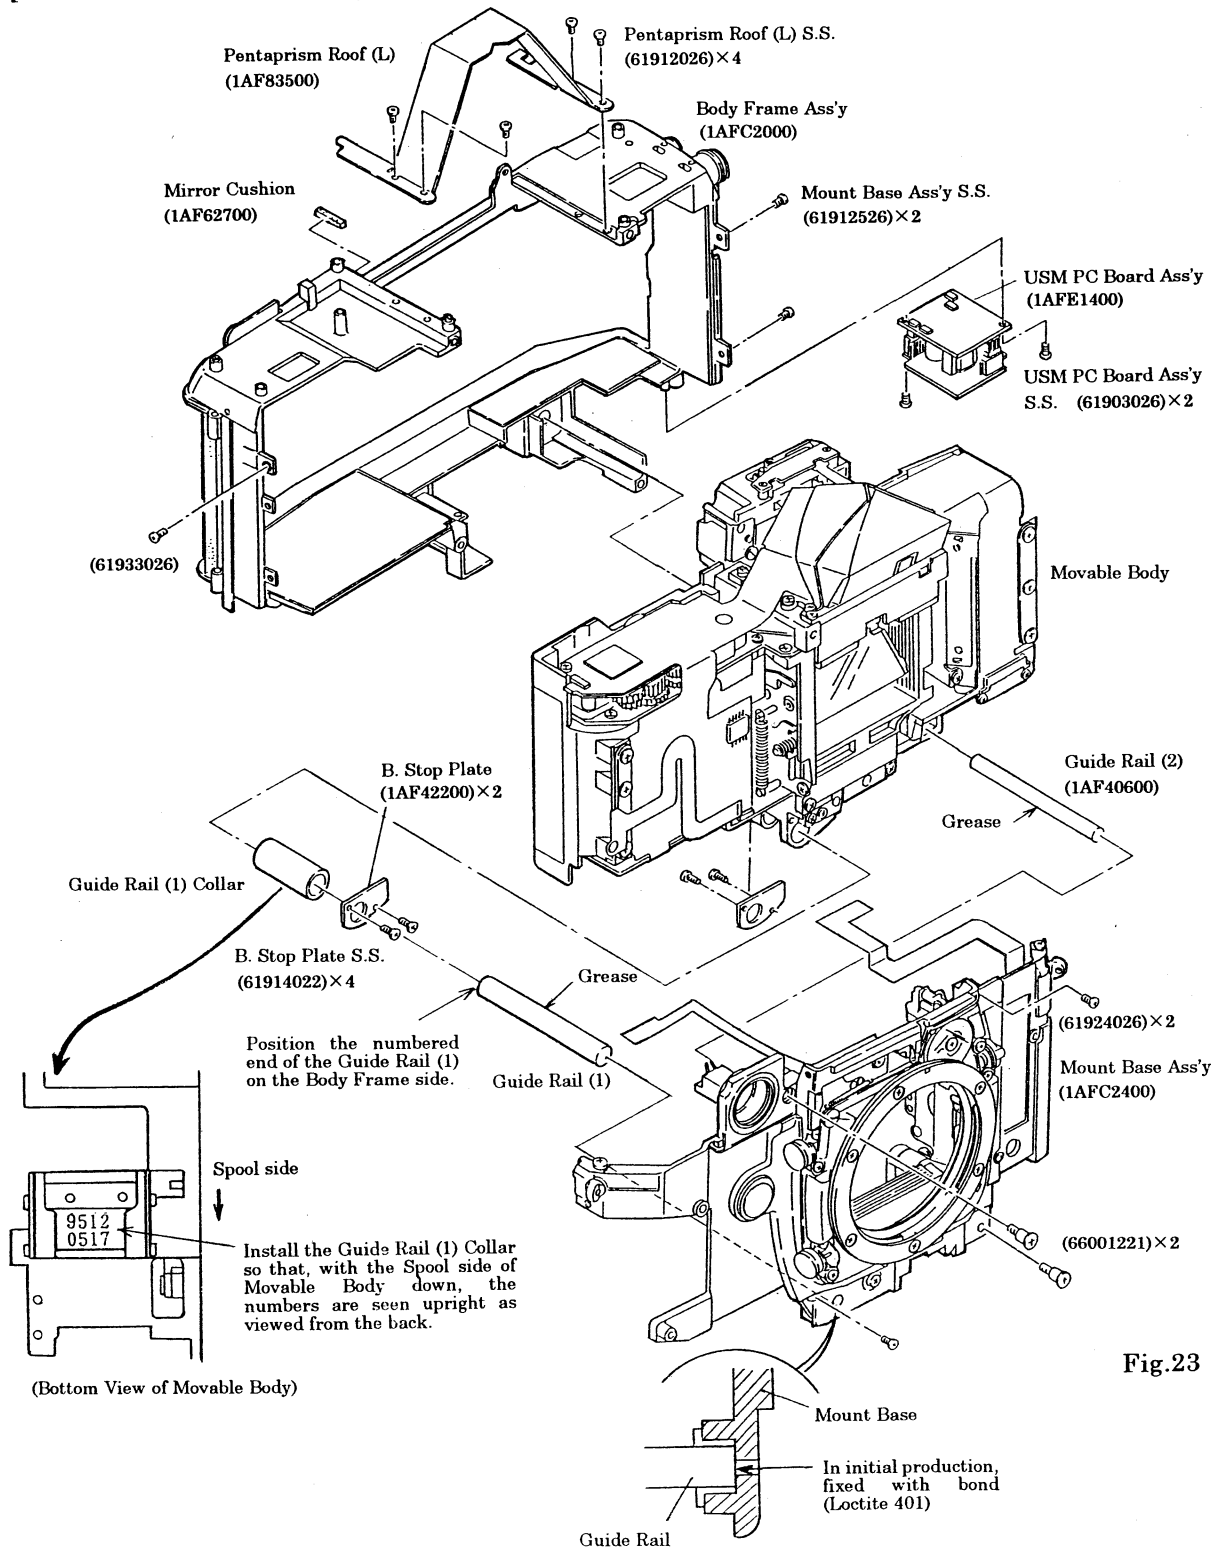

Fig.23
- 2) Remove the USM PC Board Ass'y Setscrews (61903026)×2 and take off the USM PC Board Ass'y (1AFE1400). (See Fig.23)
(See Fig. 23)
- In the camera at the early stage of production, the Guide Rail (1) and Guide Rail (2) are fixed to the Mount Base Ass'y with the bond (Loctite 401). In the camera with the permanent measures, the Guide Rail (1) and Guide Rail (2) are press-fit in the Mount Base Ass'y.
- To ensure the high-accuracy and smooth sliding of the Movable Body, make certain that the Guide Rails and Guide Rail (1) Collar installed are marked with the same number. A Guide Rail (1) and a Guide Rail (1) Collar, in a pair, constitute a Guide Rail Ass'y (1AF41300).
- Clean the Guide Rail (1) and Guide Rail (2) with lens cleaning paper with ether alcohol first and then apply the Grease (LOGENEST LAMBDA A-74). After that, install the relevant parts so that the numbers stamped on the Guide Rail (1) and Guide Rail (1) Collar is positioned as shown in Fig. 23.